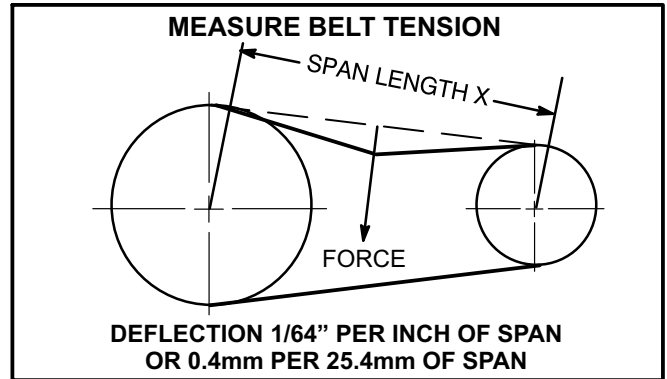

FIGURE 24
- 1- Measure span length X. See figure 24.
- 2- Apply perpendicular force to center of span (X) with enough pressure to deflect belt 1/64" for every inch of span length or 0.4mm per 25.4mm of span length.